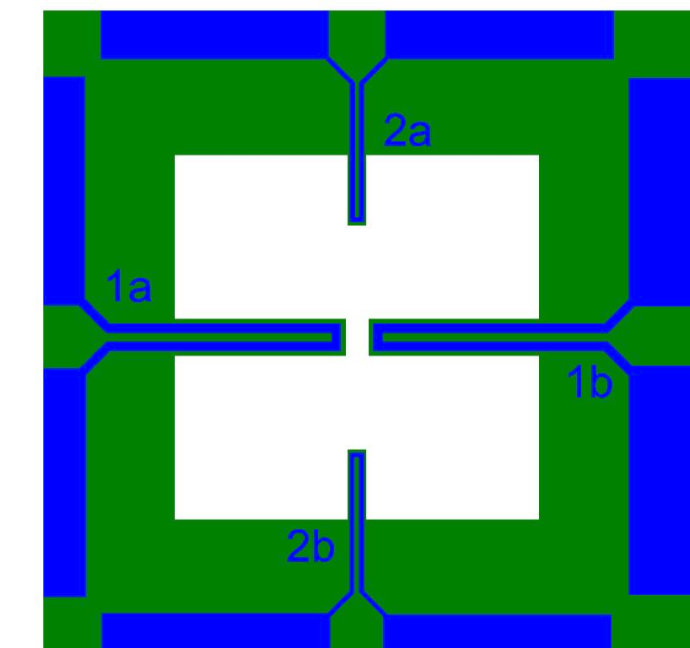

Figure 7 Cantilevers on the sides of the square.
- b. What would it change in terms of KOH etching if we were to put the cantilevers on the sides of the square (Figure 7)?